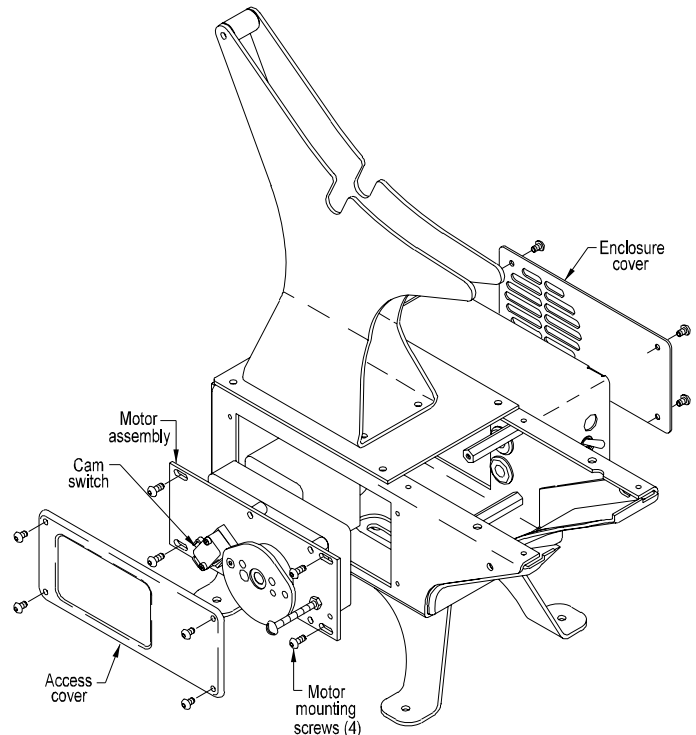

Figure 3.10
I. MOTOR REMOVAL: (Figure 3.10):